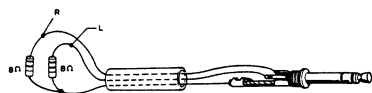

Fig. 7-10 Test Condition for Headphone Output Level Checks
2. Connect test equipment to the deck as shown in Fig. 7-10. An 8 ohm non-inductive resistor should be used as the test load resistor.